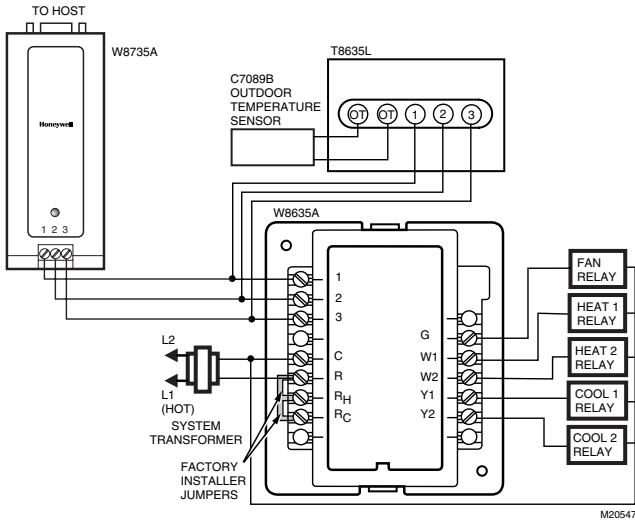

Fig. 2. Connecting single-zone Enviracom™ to RS-232 to host.
2. Loosen terminal screws on W8735A and connect system wires. See Fig. 2.